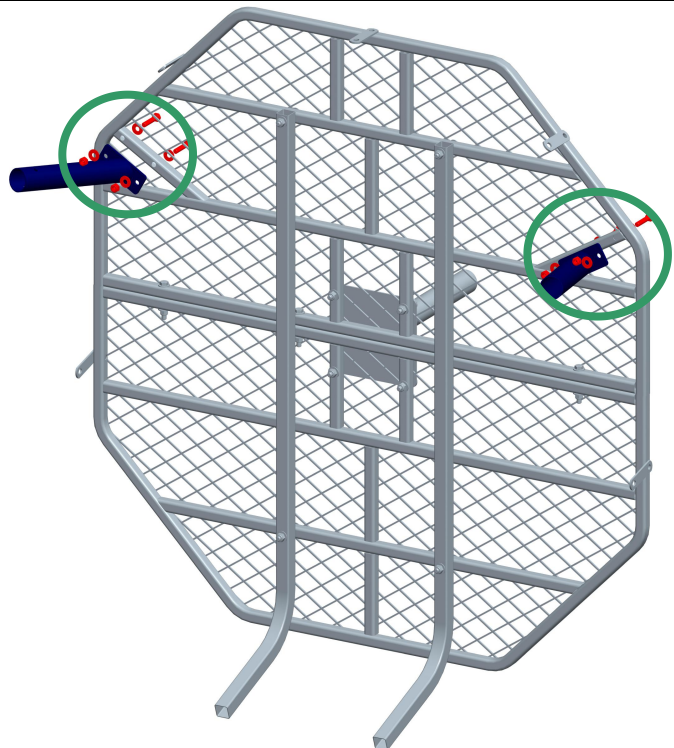

Figure 4
Locate two Leg Supports (#5). Install the Leg Supports (#5) onto the assembled Platform using four (4) M8x40 Bolts, eight (8) Steel Washers and four (4) Locknuts as shown in Figure 4.